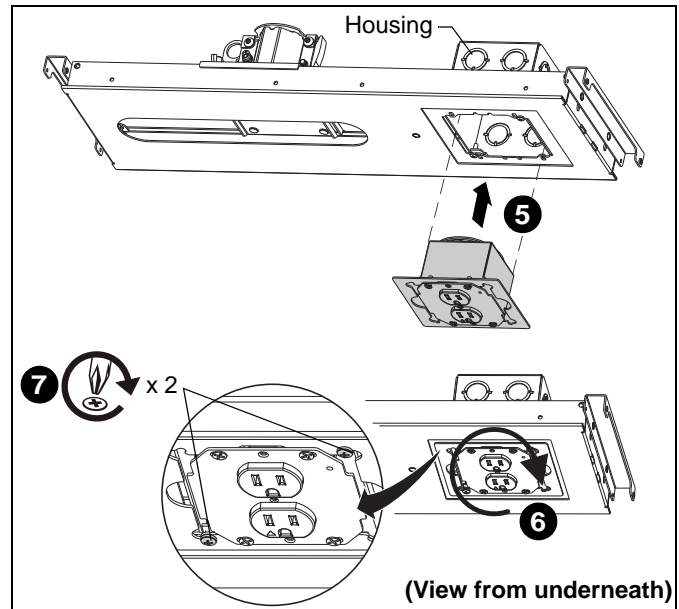

Figure 4
- Replace the outlet box in the housing. (See Figure 4)
- Rotate outlet box clockwise until it is in proper position to be secured to the housing. (See Figure 4)
- Tighten two Phillips screws to secure outlet box to housing. (See Figure 4)